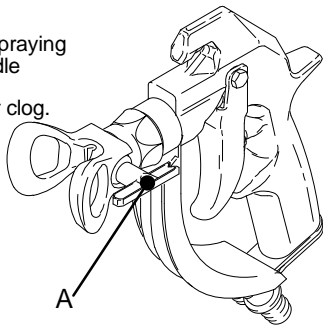

Fig. 4 _____
1. Engage the trigger safety latch. Rotate the RAC IV tip handle 180°. See Fig.4.